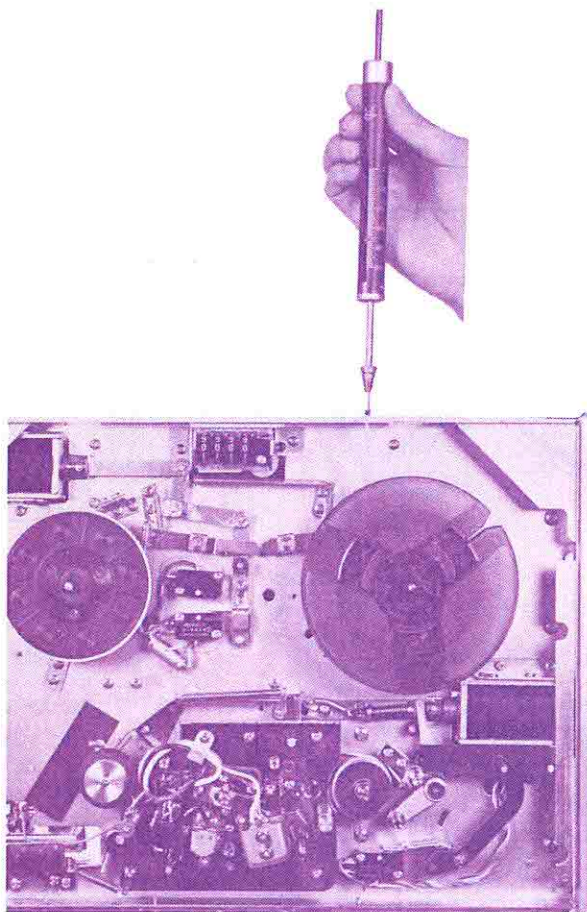

Fig. 9
1) Use a 60 mm diameter tape wound on a 5" reel and measure the brake tension as shown in Fig. 9. Ideal tape tension is 350 grams.